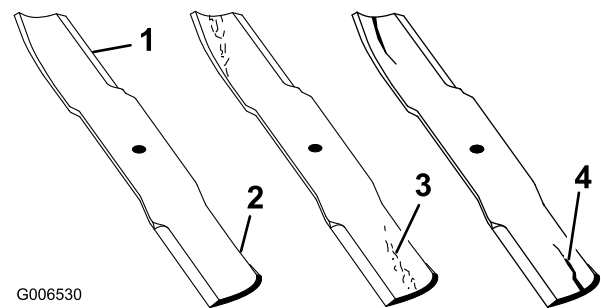

Figure 62
1. Inspect the cutting edges (Figure 62). If the edges are not sharp or have nicks, remove and sharpen the blades. Refer to Sharpening the Blades.
2. Inspect the blades, especially the curved area (Figure 62). If you notice any damage, wear, or a slot forming in this area (item 3 in Figure 62), immediately install a new blade.